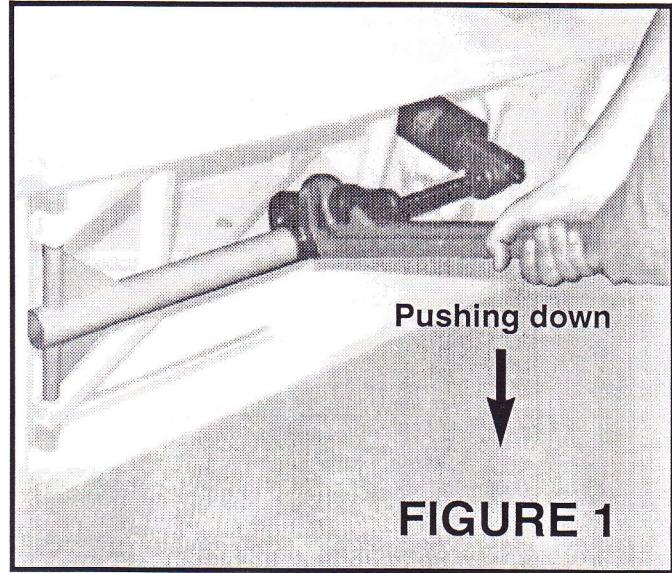

FIGURE 1
3. Using the chain wrench or pipe wrench, unscrew the actuator ball nut from the gray actuator adapter tube (see FIGURE 1). The table may have to be run to a higher or lower position to release one from the other. Use the wire brush to remove hardened lock-tite from tube threads.